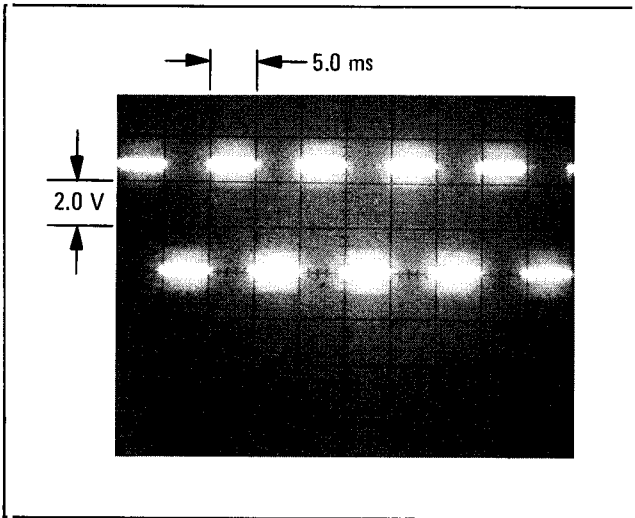

Figure 6. Oscilloscope Display of Counter 0 Output at J3-Pin 4 (with dc coupling and internal triggering)
5. The Counter 0 output, Out 0, measured at test point J3-Pin 4 of Triple Programmable Counter U20 is a 100 Hz square wave for a Signal Generator frequency of 90 MHz (refer to Figure 6) and a 250 Hz square wave for a Signal Generator frequency of 90.00025 MHz.